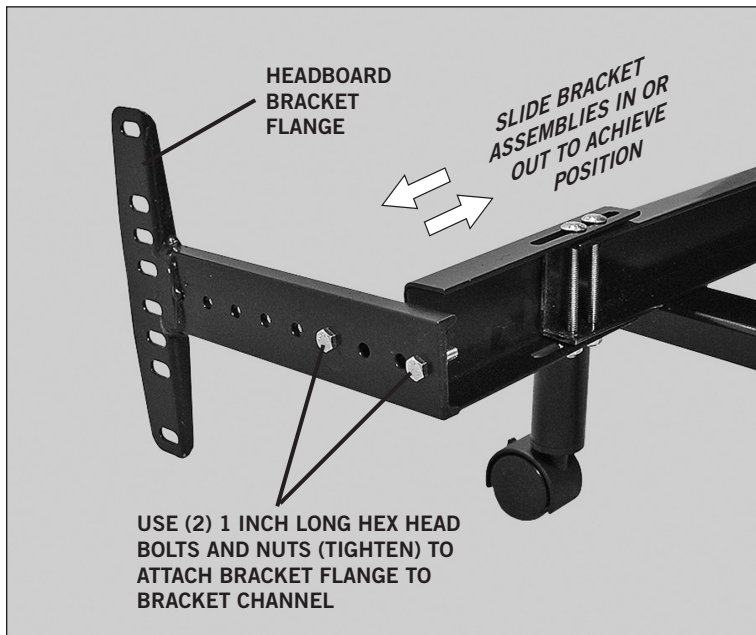

FIGURE 10: Headboard bracket flange installation (*attach one flange to each of the headboard bracket channels*).
- c. Attach one headboard bracket flange to one of the bracket channels with (2) hex head bolts/nuts (**FIGURE 10**). Tighten bolts. Repeat procedure to attach the other headboard bracket flange.
- d. Slide headboard bracket assemblies (in or out) to achieve a distance of 1.5 inches (38.1mm) to 2 inches (50.8mm) between the edge of the base and headboard bracket flange assemblies (**FIGURE 10**).
TWIN SIZE HEADBOARD BRACKET ASSEMBLIES ARE SHOWN (**FIGURES 10 AND 11**). QUEEN SIZE HEADBOARD BRACKETS ARE EQUIPPED WITH ANGLE BRACES.